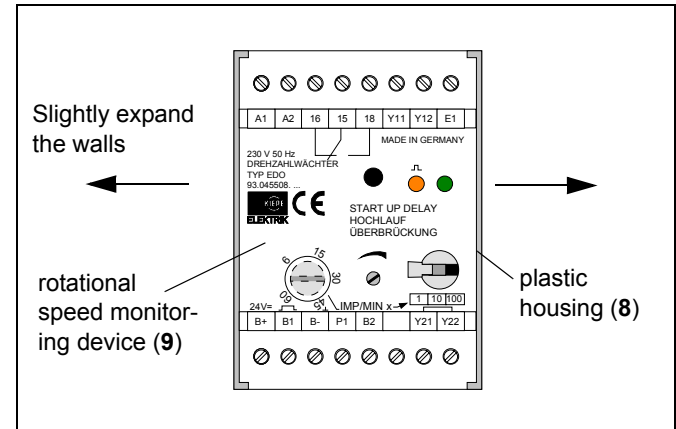

Fig. 6-1: Opening the plastic housing
The following settings can only be carried out on the circuit board (26) of the rotational speed monitoring device (9) (s. fig. 6-1 and 6-2).
3. Slightly expand the walls of the plastic housing (8) and carefully pull out the circuit board (26) (s. fig. 6-1 and 6-2).